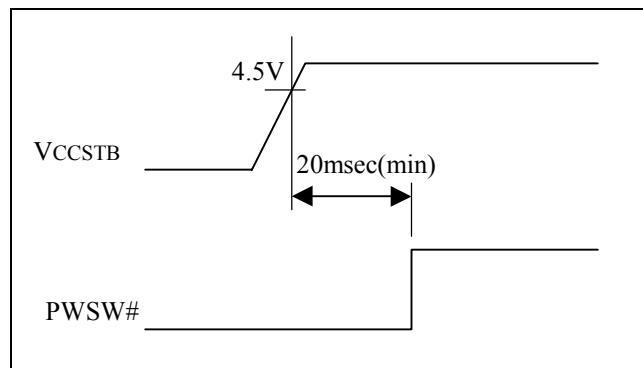

Fig. 3-5 Timing of VCCSTB and PWSW# signals (VCCSTB pin =VCC5V)
- #9) Input at the timing described in Fig. 3-5 is necessary. Also, even when it is not used, the pin must be handled in the way described in Fig. 3-6
Connect the VCCSTB pin of CARD-PCI/GX to VCC5V. When it is connected, delay the PWSW# signal by more than 20 msec after the rise of VCCSTB, as described in Fig. 3-5. If the delay is less than 20 msec, CARD-PCI/GX may not function normally. Fig. 3-6 shows an example of the PWSW# signal generation circuitry. While it is possible to connect a SUSPEND/RESUME switch to the PWSW# pin, in this example the PWSW# pin is not used. Also, use the POFF signal as unconnected.